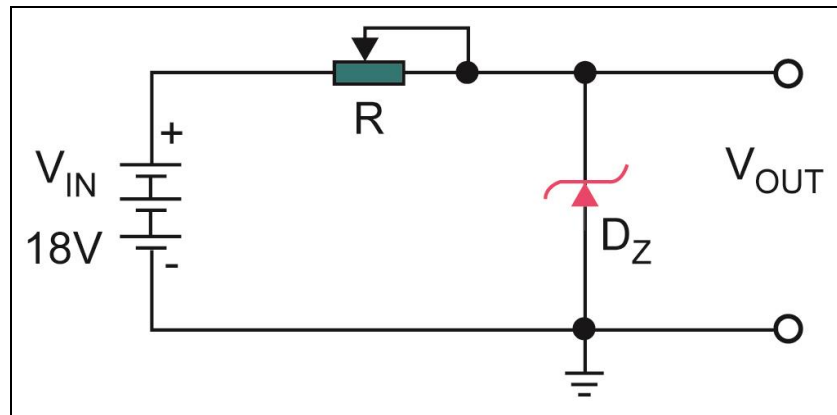

Fig. 3.1-27
4. What should be the adjusted value of R in Fig. 3.1-27 to make $I_Z = 40 \text{ mA}$? Assume that $V_Z = 12 \text{ V}$.